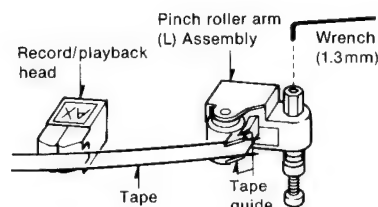

Fig. 2
- Set the test tape (tape with mirror: QZZCRD) according to the tape guide of record/playback head. Then set the mode to "pause" and adjust the hex. hole screw of the adjusting nut so that the tape does not touch the tape guide of pinch roller arm (L) ass'y. (Shown in Fig. 2.)
- If the tape oscillates (or twists), go back to the adjusting step (1).